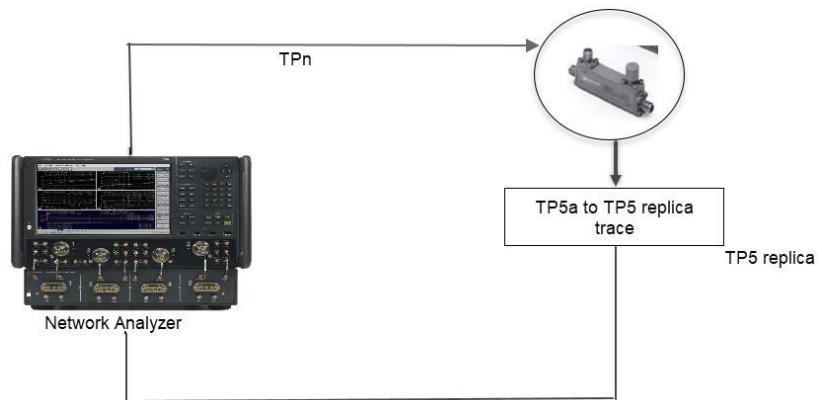

Figure 26 COM procedure: Schematic test setup for channel characterization (Noise Channel S-Parameters)
- 2 Measure the scattering parameters, $S^{(nc)}$ on the Noise Channel with additional network (TPn to TP5 replica) (schematic test setup shown in Figure 26).